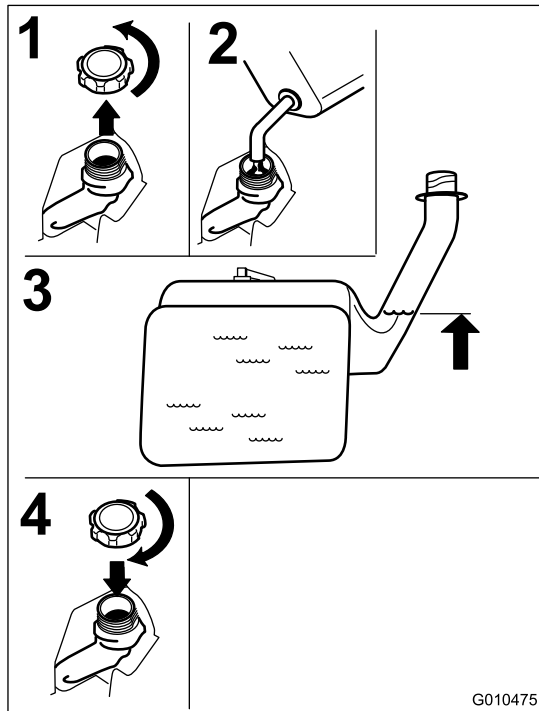

Figure 9
3. Fill the fuel tank to the bottom of the filler neck Figure 9.